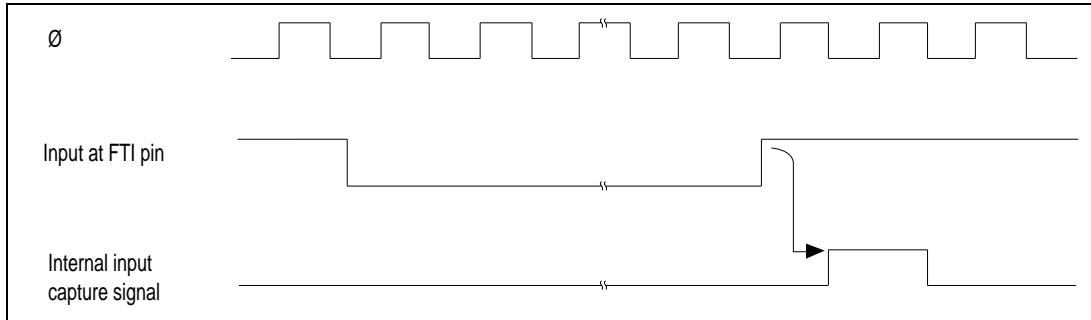

Figure 6-11. Input Capture Timing (Usual Case)
(1) Input Capture Timing: An internal input capture signal is generated from the rising or falling edge of the signal at the input capture pin FTIx (x = A, B, C, D), as selected by the corresponding IEDGx bit in TCR. Figure 6-11 shows the usual input capture timing when the rising edge is selected (IEDGx = "1").